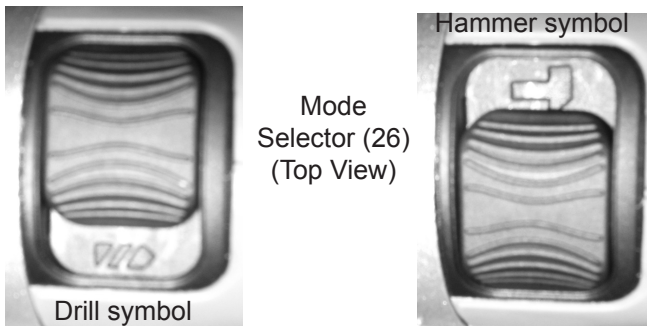

Figure 3
11. To switch between plain drilling and hammering mode (drilling with an oscillating hammer motion), slide the Mode Selector (26) to left or right. The “drill” symbol indicates plain drilling while the “hammer” symbol indicates hammer drilling. See Figure 3.